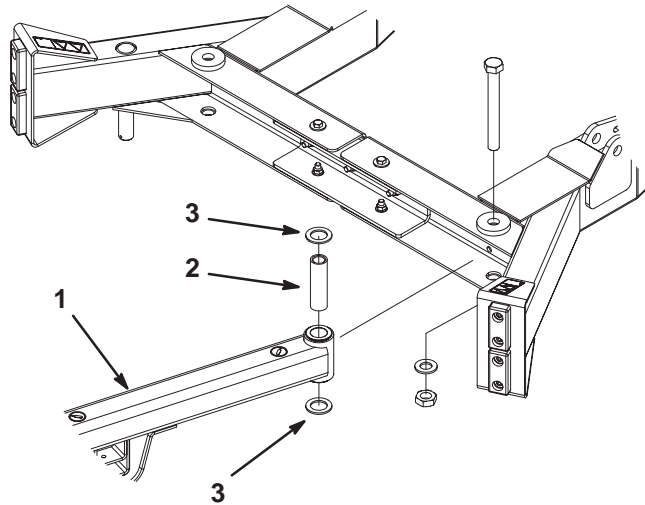

Figure 10
5. Secure left brush arm to left lift arm with a 3/4 x 6–1/2” lg. screw, spacer, (2) thrust washers, .813 x 1.500 flatwasher and 3/4 jam nut (Fig. 10). Thrust washers to be positioned between brush arm bushings and inside of lift arm. Torque to 145–190 ft–lb.